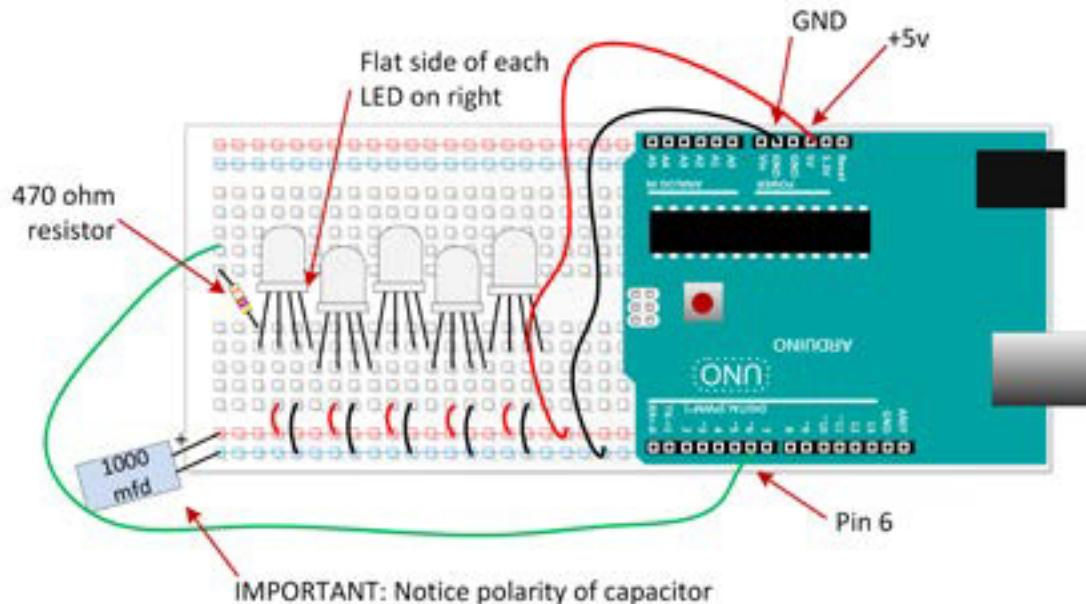

Figure HT8-2. Schematic and pictorial of wiring for NeoPixel and Arduino™
2. Wire the parts as shown in Figure HT8-2.
Be certain the flat side of each NeoPixel is oriented the same as in Figure HT8-2, and make sure that the positive and negative leads of the capacitor are not reversed.